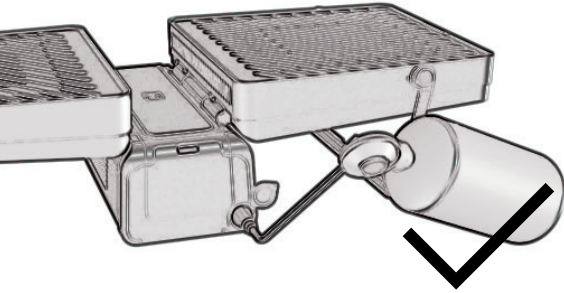

FIG. 04
5. Grill with regulator and propane cylinder properly assembled. (Fig. 04)